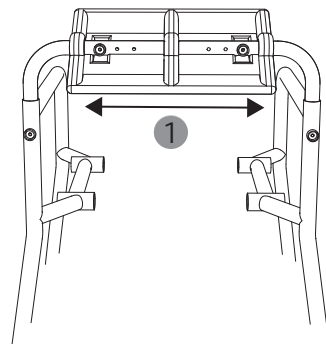

Fig. 8
7. The middle section inside the backrest is now free to move. There are three holes on each side for setting the required seat width (560/630/700 mm). To adjust the width, pull the side elements outwards (1, Fig. 8). When adjusting the seat width, make sure that the backrest remains centrally aligned.